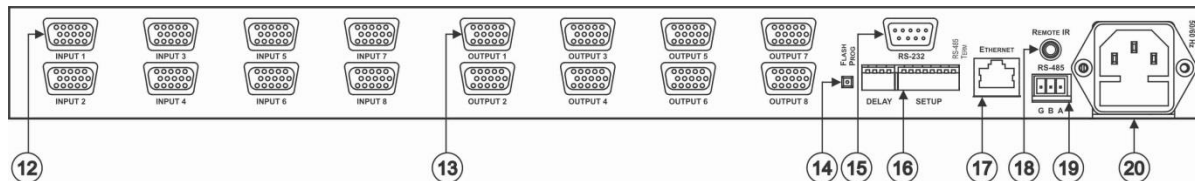

Figure 2: VP-8x8 User Manual Rear Panel
Switch OFF the power on each device before connecting it to your VP-8x8. After connecting your VP-8x8, switch on its power and then switch on the power on each device. DO NOT push in the rear panel Flash Program "Program" button (item 14 in Figure 2) and DO NOT push in the underside Flash Program "Reset" button. These are only used for upgrading to the latest Kramer firmware.